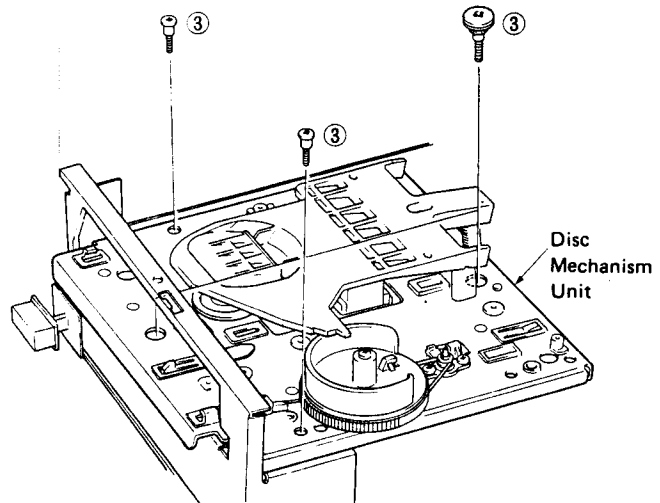

Fig. 4
- Remove 4 screws ( ③ ) in Fig. 4.